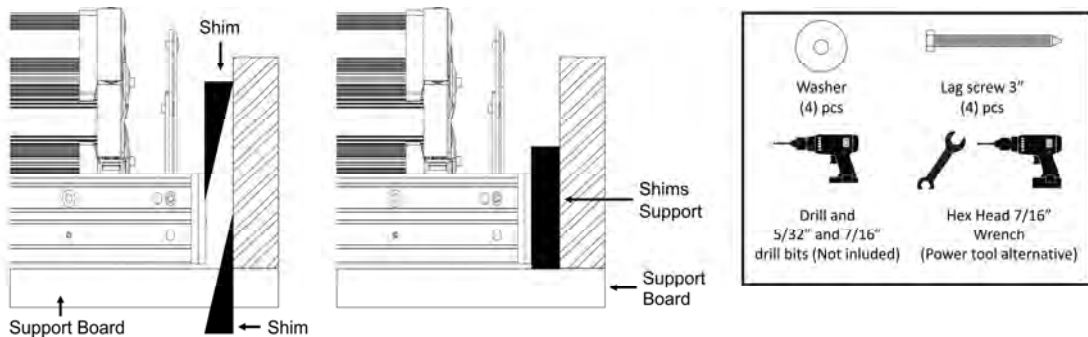
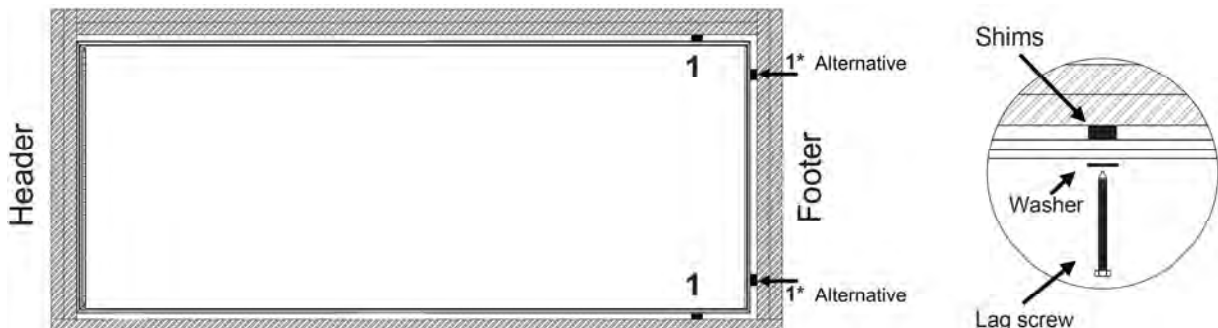
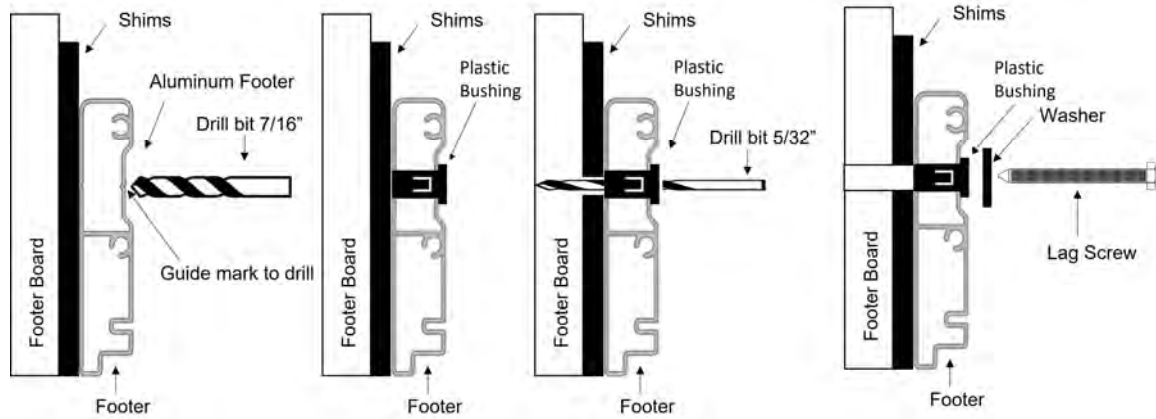

FIGURE 16 : SHIMMING SIDE FRAME.
FIGURE 17 : DRILLING AND SECURING PILOT HOLES AT SIDE
FIGURE 18: ALTERNATIVE INSTALLATION (SEE NOTE ON SECTION N)
Note: Extra parts (Bushings, Washers and Lag Screws) are included for alternative installation points. (See Figure 3 , Figure 17 and Figure 25)
N. Installer #1 and #2: Place shims from above and below (See **Figure 16**) at the 2 pre-drilled holes at position 1 indicated in **Figure 17**. The shims should provide uniform support so there is no twisting or bowing of the aluminum frame. Drill 5/32" diameter by 3" deep pilot holes into the ceiling joist through the bushings at position 1. Install the two lag screws to secure the attic ladder side frames.
If using the alternative position: Drill 2 holes using 7/16" drill bit from the inside of ladder **only through aluminum footer profile** (See **Figure 18**) and centered at the location you placed the footboard shims in Section J. **At this point the footer shims will become a necessary permanent part of the installation.** Next, install plastic bushings following the same procedure as in Section B. See **Figure 17** and **Figure 18**. Then, drill 3" deep pilot holes through the bushings, shims and into the ceiling joists. Finally install two lag screws and two washers at each footer location to secure the attic ladder. (See **Figure 18**)